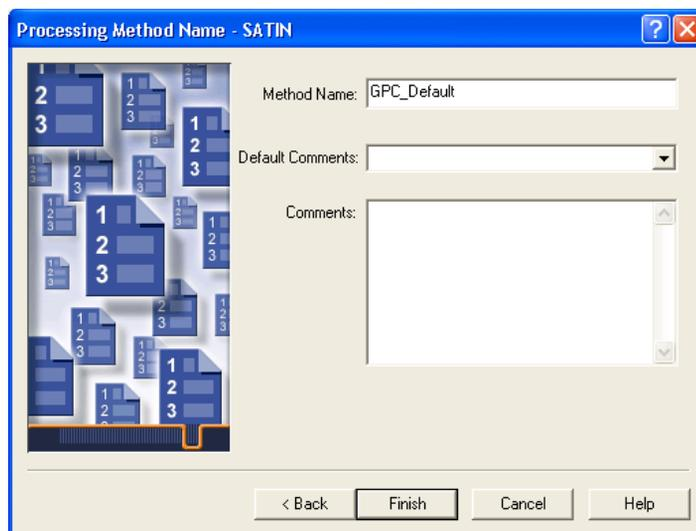

Figure 2-12 Naming the Processing Method
23. Click **Next** to go to the Processing Method Name page (Figure 2-12). This page allows you to define a name to save your method.
24. Enter **GPC_Default** in the Method Name text box to name the new processing method (Figure 2-12). Enter comments if you want to provide additional information about the processing method. Click **Finish** to complete the wizard, save your new processing method, and process the current narrow standard channel with the new processing method.